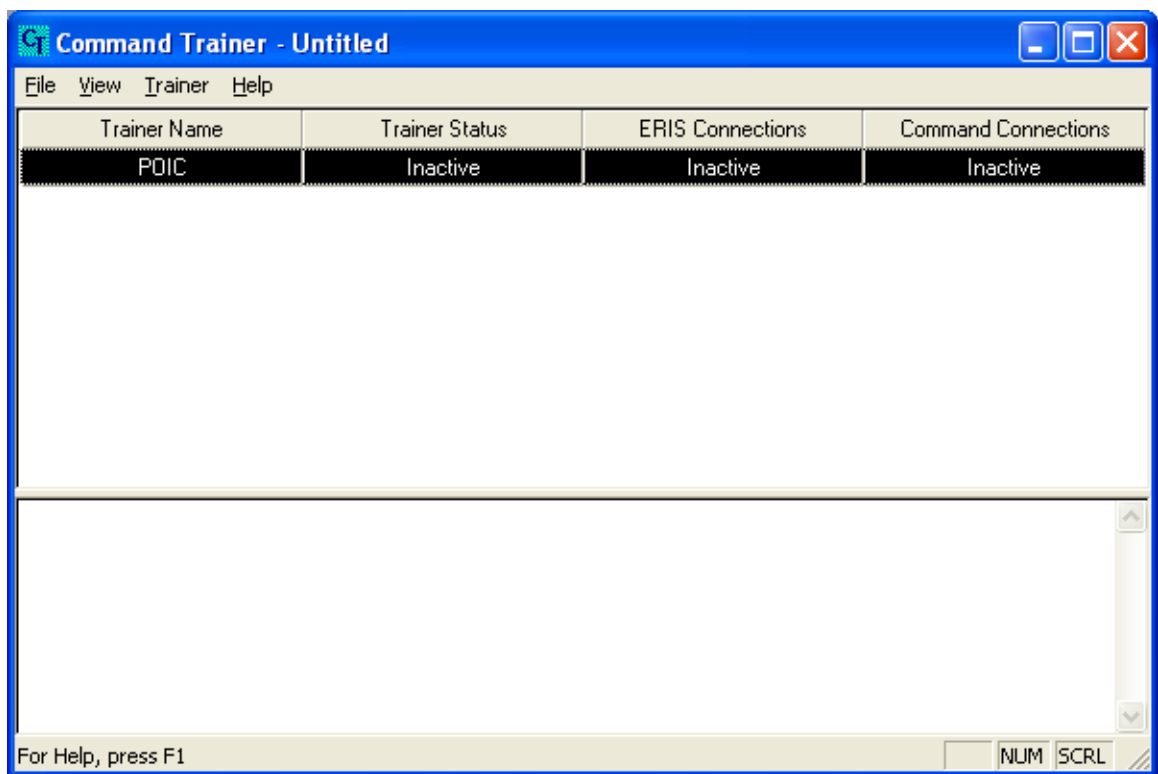

Figure 27 Command Trainer with POIC Trainer in Trainer List
When you are done checking (and possibly updating) this information push the **OK** button. You should now see the trainer listed in the Command Trainer main window trainer list as shown in Figure 27.
10. Select the POIC trainer in the Command Trainer application's main window trainer list. The row should be highlighted (as shown in Figure 27). Now go to the **Trainer** menu and select **Activate Trainer**. You will see the color of the trainer change to green and a message in the message area of the main window indicating that the trainer has been activated. Notice that the ERIS Connections and Command Connections columns show 0. This is because at this point no connections have been established.